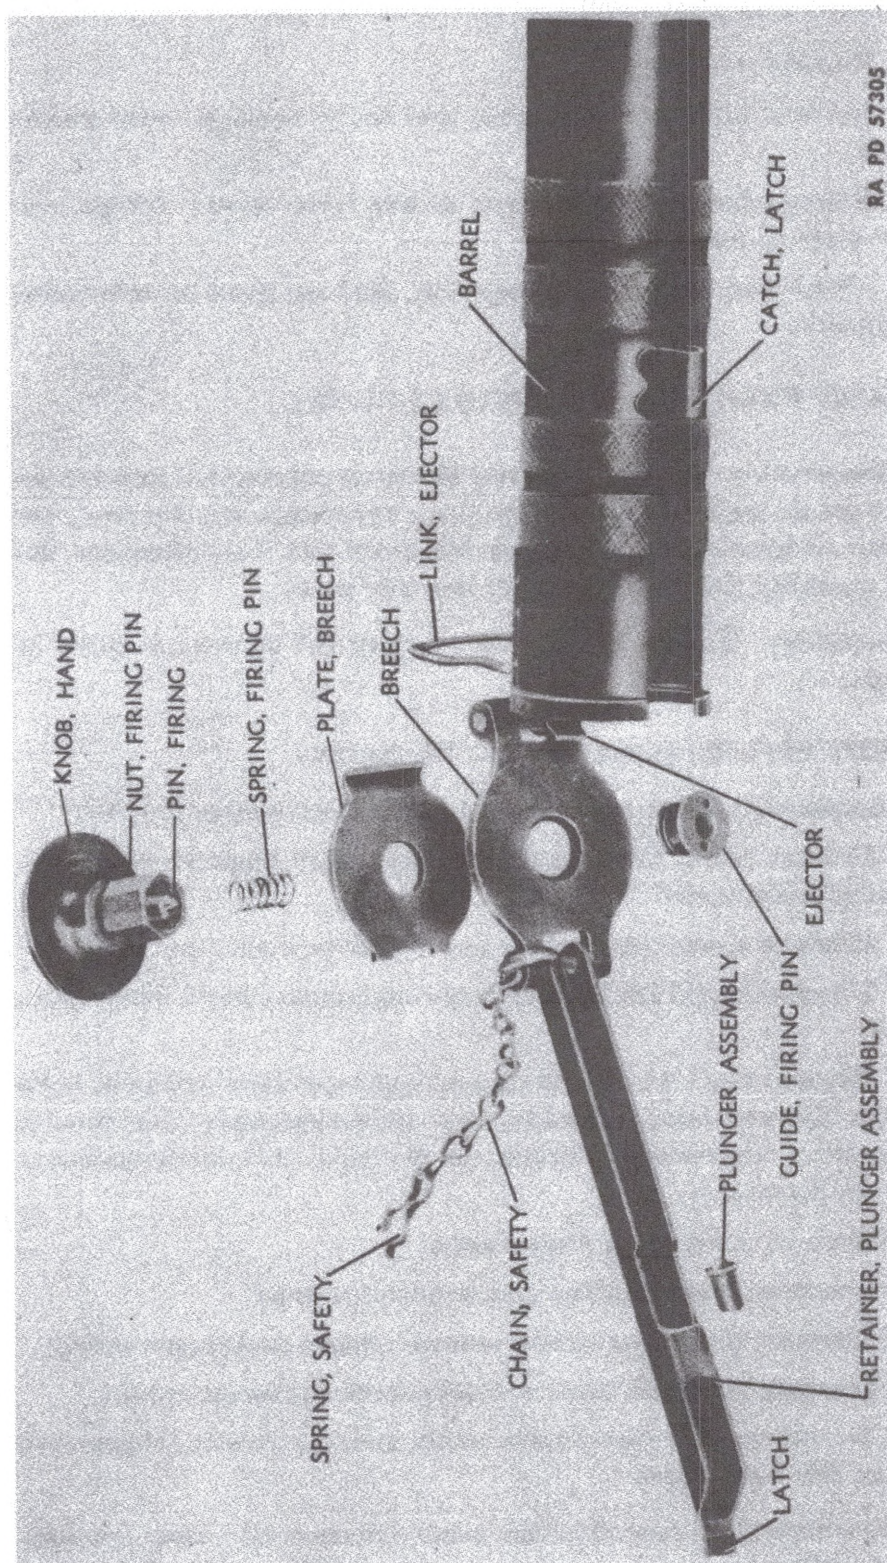

Figure 26 — Projector, Pyrotechnic, Hand, M9 — Parts
- (6) Drop rack pinion and gear assembly into place.
- (7) Fit rack into place.
- (8) Replace brake housing cover and screw housing cover screws into place.
- (9) Replace box cover and screw in box cover screws. Secure controller in place in aircraft.
- (10) With handle in normal position, take up slack in cable with cable adjuster.
a. **Disassembly** (fig. 26). Unscrew the firing pin nut and remove the firing pin guide, the breech plate, the firing pin spring, and the firing pin with knob and nut. With a drift or other suitable tool, drive out the plunger assembly, taking care not to lose the parts.